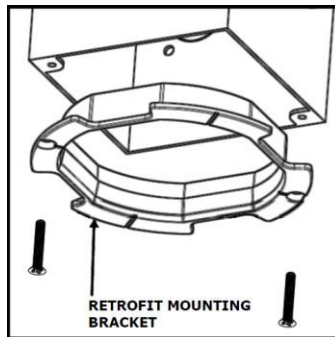

Figure 10
Step 2. Take retrofit mounting bracket and secure it as shown in (Fig. 10 & 11) with provided flat head screws to junction box.